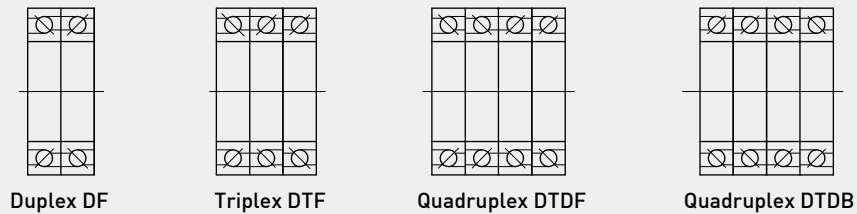

Fig 4.4 Different arrangements of ballscrew support bearings
- (5) Select a suitable support bearing arrangement for the screw spindle. Angular contact ball bearings (angle=60°) are recommended for CNC machinery, because of higher axial load capacity and ability to provide a clearance-free or preloaded assembly (Fig. 4.4).